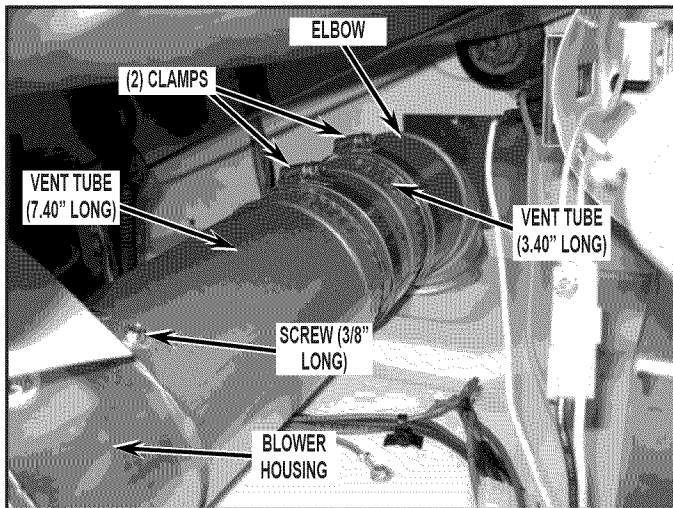

FIGURE 15
7. Insert the sub-assembly from Step 6 through the dryer front and position the elbow in the down direction. Attach the 187 mm (7.40") long vent end to the blower housing using the 3/8" long screw removed in Step 5 of "Procedure for Dryer Disassembly" section. See *Figure 15*.
8. Assure the positioning of the bottom exhaust vent assembly then securely tighten the clamps. See *Figure 15*.